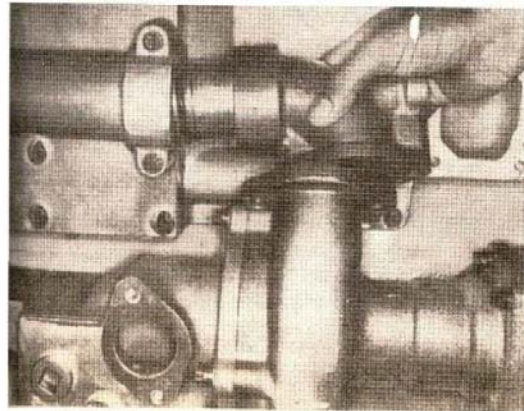

Fig. 14-95. Install the water transfer tube
7. Lubricate the O-rings with clean engine lubricating oil. Assemble the water transfer tube into the connector. Do not tighten the capscrew. Put the tube assembly and gasket to the lubricating oil cooler cover and water pump as shown in Fig. 14-95.